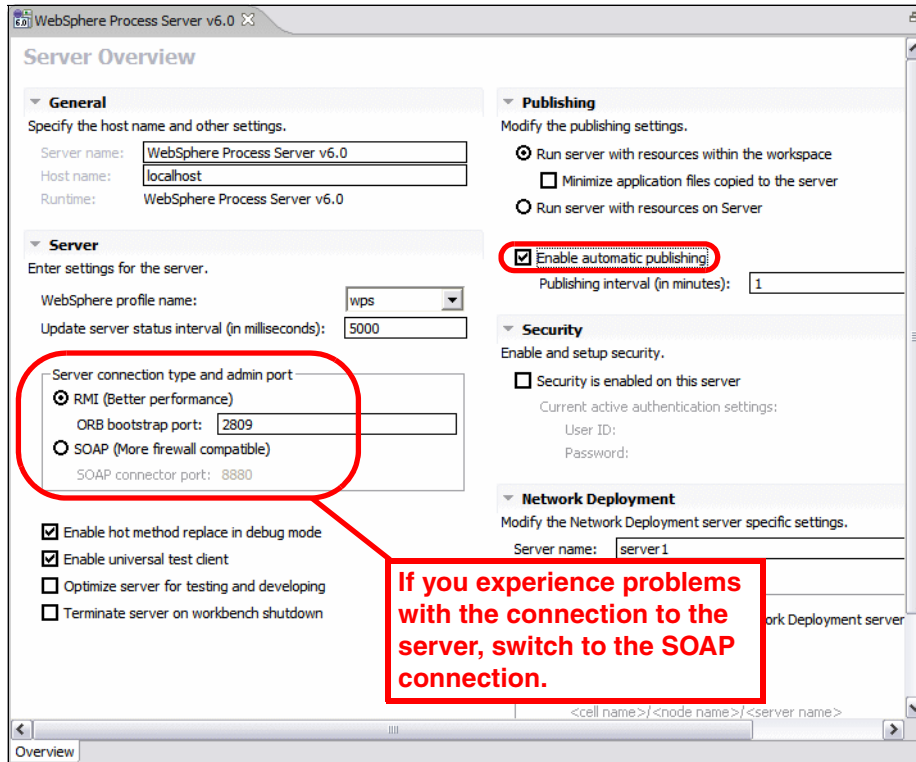

Figure 10-5 Process server configuration
- ▶ Integration Developer communicates with the server through either RMI or SOAP. You can select the protocol by opening the server configuration (Figure 10-5)—double-click *WebSphere Process Server v6.0*.